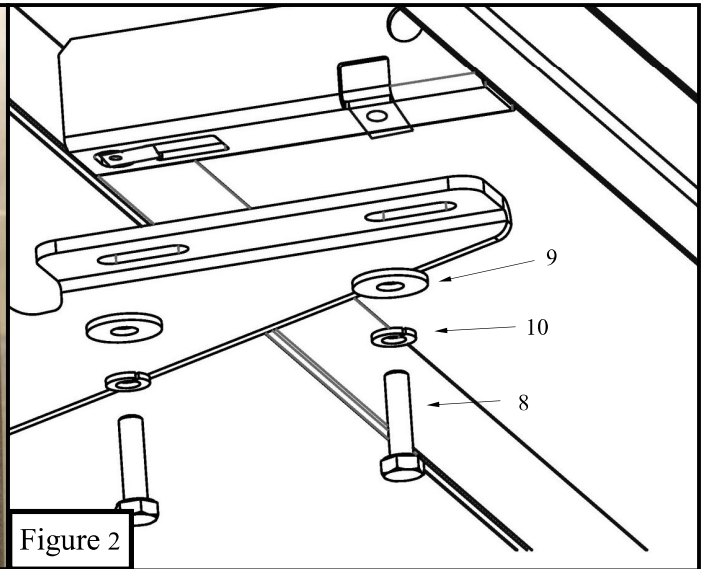

Figure 2
- Take the drivers side running board and place it onto the mounting bracket cradles; align the running board with the mounting holes in the brackets and attach using (6x) M8 hex head bolts (item 8), (6x) M8 lock washers (item 10), and (6x) M8 large flat washers (item 9) **Figure 2.** *Do not fully tighten at this time.*